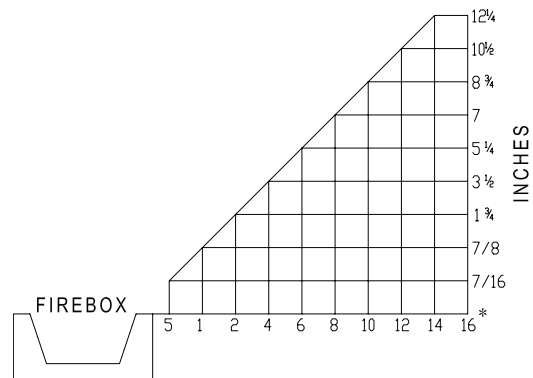

Figure 4 - Minimum Clearance for Combustible to Wall
- Clearance from the side of the fireplace opening to any combustible material and wall should follow diagram in Figure 4.